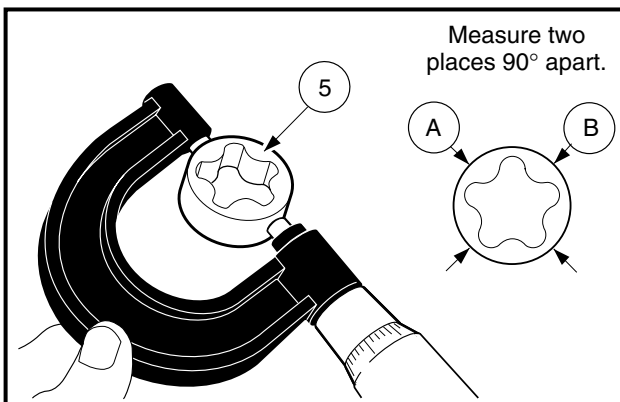

Figure 2-62 Measure O.D. of Outer Rotor
- 4.2. Use a micrometer to measure the diameter of the outer rotor at several points (Figure 2-62, Page 2-29).